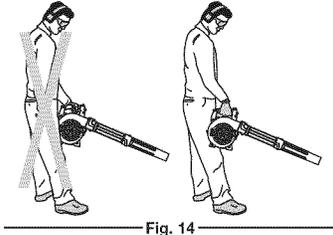

Fig. 14
**WARNING:** After starting the unit, always stand on the left side of the unit to operate it as shown in figure 14 to keep from blocking the air intake.
- The unit is in the right hand and on the right side of the body. Do not block the air intake which will affect the unit's performance (Fig. 14).
Hold the blower with the right hand. Do not stand on the right side of the blower when operating the unit (Fig. 14). If you do, you will be blocking the air intake and this will affect the unit's performance. Instead, be sure to stand on the left side of the unit to maximize the unit's efficiency (Fig. 14).